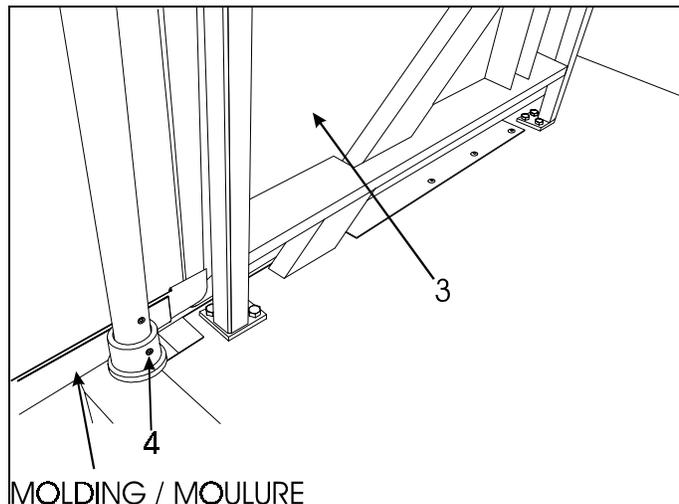

FIGURE 2
4. Unscrew the flange retaining screw (item ④ figure 2).